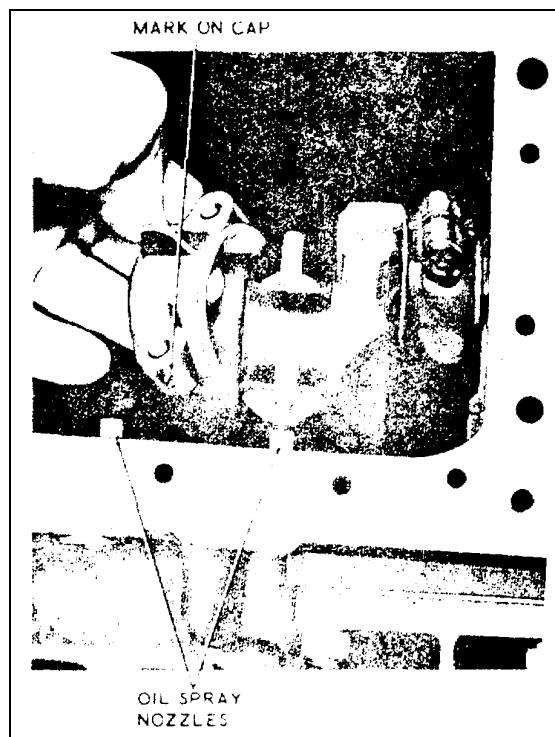

Figure 4-15. Bearing Caps
(6) Remove palnuts and hexagon nuts from all connecting rod bolts. Tap end of bolts lightly, being careful not to mar threads and free connecting rod caps from bolts. Push connecting rods with pistons up through cylinders. Be careful not to score crankshaft journals by allowing rod bolts to strike or scrape across them. Replace caps on rods immediately so they are in correct position for reassembly. A number is stamped on the side of each rod and cap for matching (figure 4-15).
(5) Place bearing shells in proper position in rod and cap. Position caps on studs of connecting rods with identifying number on cap on same side as number on connecting rod (figure 4-15). Tighten connecting rod nuts 28 to 32 foot pounds torque then install palnuts and tighten with wrench to 1/4 turn beyond finger tight position.